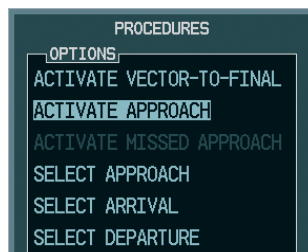

Figure 5-146 Manually Activate Approach
- b) Turn the large **FMS** Knob to highlight 'ACTIVATE APPROACH' as shown in Figure 5-146.